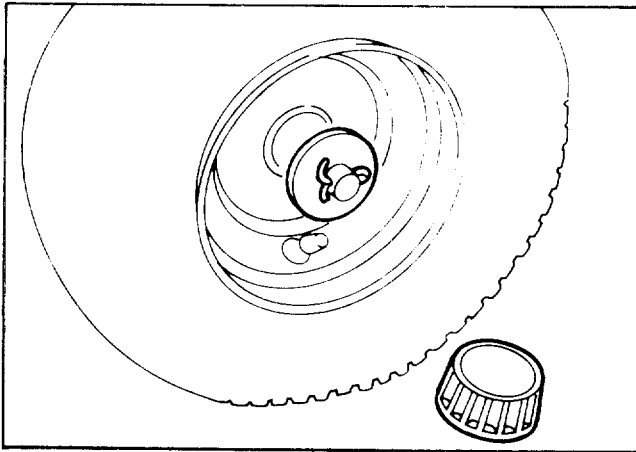

Figure 1
2. Mount flat washer onto axle, insert cotter pin and open pin ends with pliers (Fig. 1)